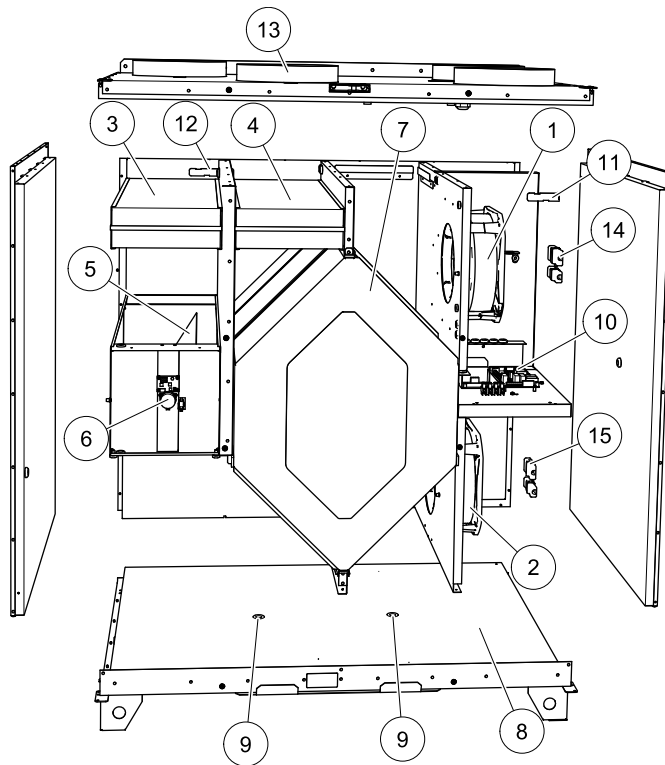

Fig. 11 Components
The fans (pos. 1 and 2 figure 11) have external rotor motors of EC type which can be steplessly controlled individually 20–100%. The motor bearings are life time lubricated and maintenance free. It is possible to remove the fans for cleaning, see “User Manual” for more information.
The built in bypass damper (pos. 5 figure 11) is involved in defrosting, cool recovery, and supply air temperature regulation of the unit. The damper motor is controlled by an analogue 0–10 V signal.
Depending on the relative humidity in the extract air, condensation may occur on the cold surfaces of the heat exchanger. The condensate water is gathered in the condensation tray (pos. 9 figure 11) in the bottom of the unit and is led out through the drainage (pos. 10 figure 11) which are situated on each side of the heat exchanger. The drainage outlets are size ½” with outer threaded tube connections (chapter 5.3.1).
The main print card (pos. 10 figure 11) controls the functions and set temperatures of the unit. It is possible to connect external accessories to terminals in the print card. See wiring diagram for more information.
- Supply air sensor (pos. 11 figure 11)
- Outdoor air sensor (pos. 12 figure 11)
- Extract air sensor (pos. 13 figure 11).
| Fans do not start | <ol style="list-style-type: none"> 1. Check the display for alarms. 2. Check that all fuses and fast couplings are connected (mains supply and fast couplings for supply and extract air fans, pos. 16 figure 11). 3. Check that the week program is in ON mode. The week program might be in OFF mode with the air flow set to OFF (chapter 7.3). 4. Check if one of the digital inputs 1–3 (DI 1–3) is active and set to off. This would force one or both fans to stop depending on the setup (chapter 7.4). |